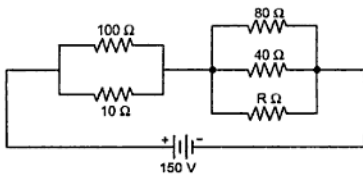

Fig. 1.84
26. Determine the value of R shown in the Fig. 1.84, if the power dissipated in 10 Ω resistance is 90 W. (Ans. : 100 Ω)